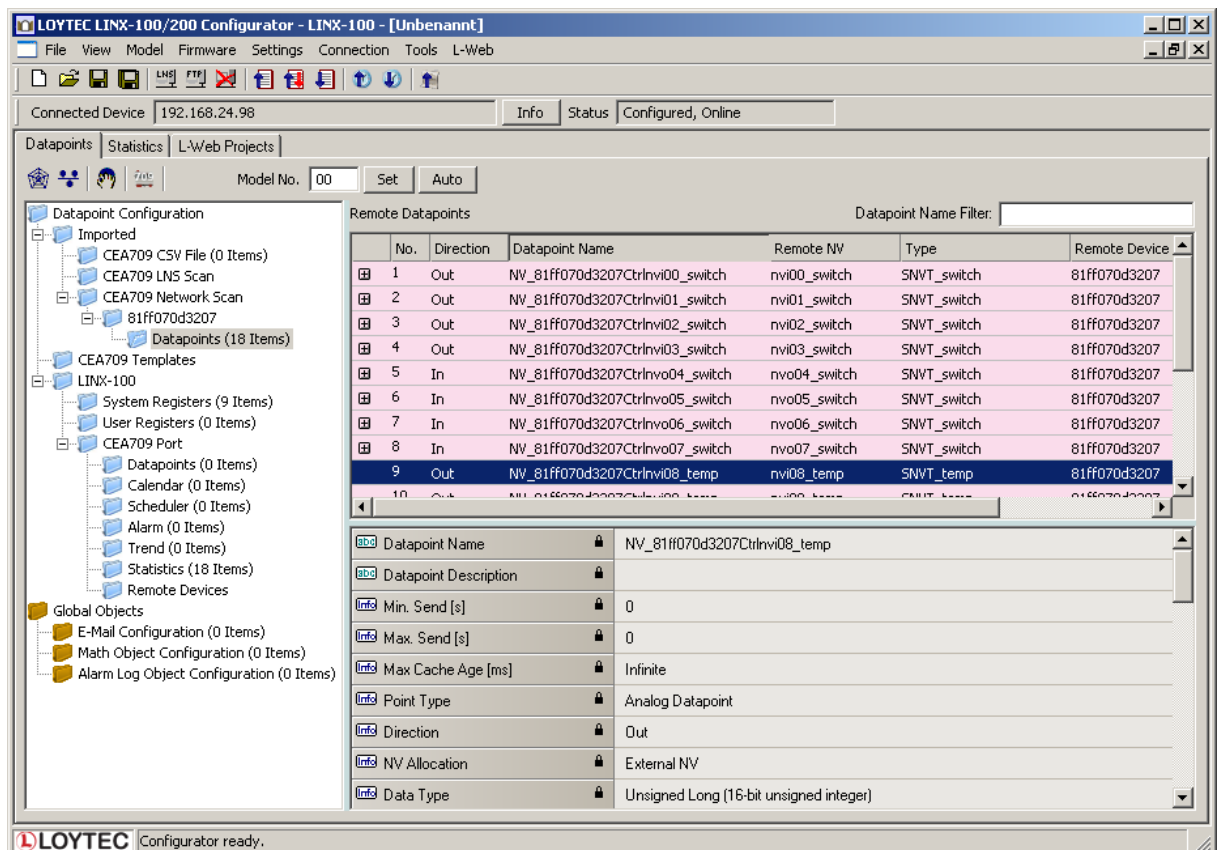

Figure 92: CEA-709 network scan results.
9. Then click the button **Scan**. This scans the NVs on the selected device and adds them to the CEA709/852 Network Scan folder as a separate sub-folder for the device as shown in Figure 92.